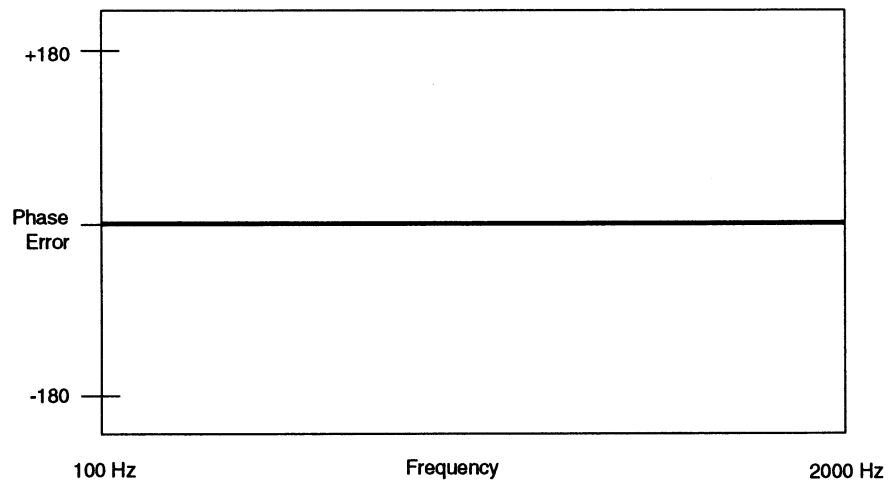

Figure 15. Example of Scope Trace with Correct Delay
Step 4. Add delay to the reference DSM to change the waveform to a flat line with zero slope across the center of the screen (add delay for - slope, remove delay for + slope). See Figure 15.